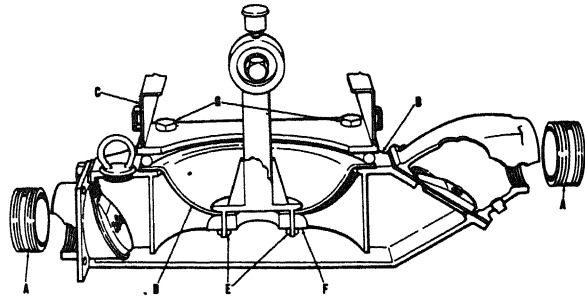

FIGURE 4
Thread the 4" close nipples into the inlet and outlet valves. Nipples (A) must be tight with no air leaks. (Reference Fig. 4)
### 18. Changing The Diaphragm (Fig. 4)
Reference for Fig. 4